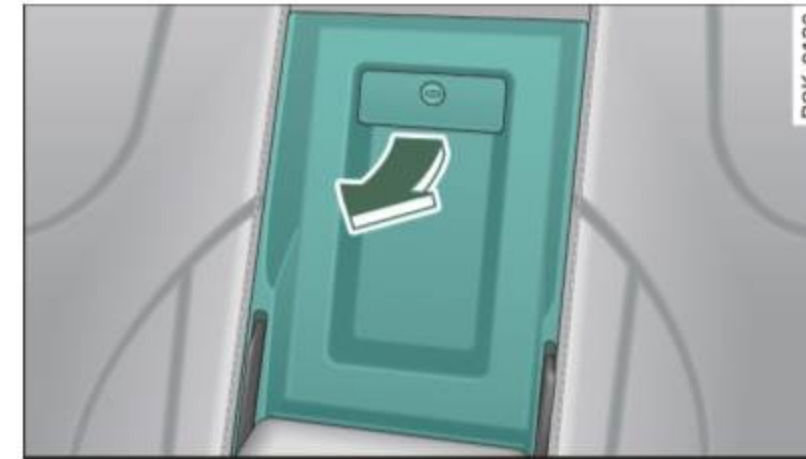

Fig. 95 In the rear seat bench: Opening the pass-through
- Pull the release handle ⇒ fig. 95 -Arrow- and fold down the cover of the pass-through in the vehicle interior.
- The pass-through can be locked and unlocked with the vehicle mechanical key ⇒ *page 91*, fig. 95. ■